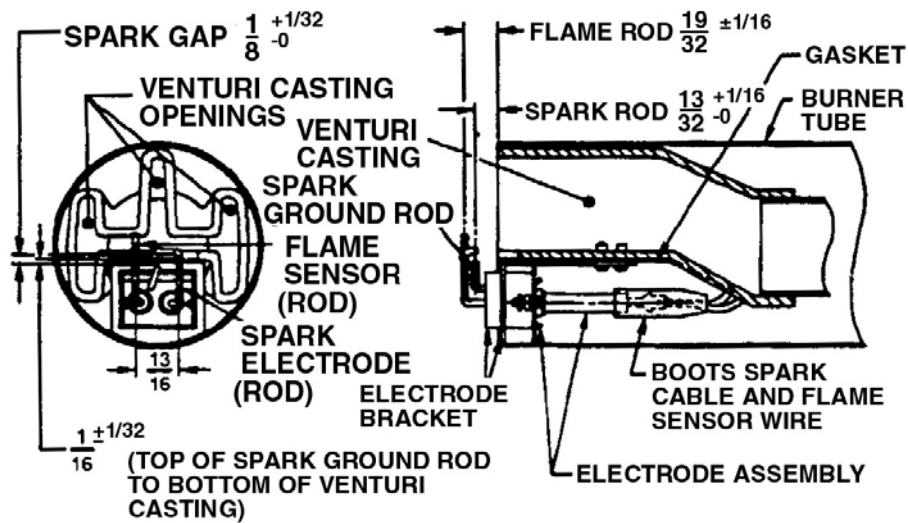

Figure 6: Venturi Casting and Electrode Assembly
- Examine the electrodes for any serious corrosion or loss of metal at the tip. The electrode assembly is not adjustable. If the electrodes have been bent out of position, or the spark gap is too wide (see Figure 6), the assembly is defective and must be replaced. Make sure that the wires go to the correct electrodes and that the rubber boots are in place.